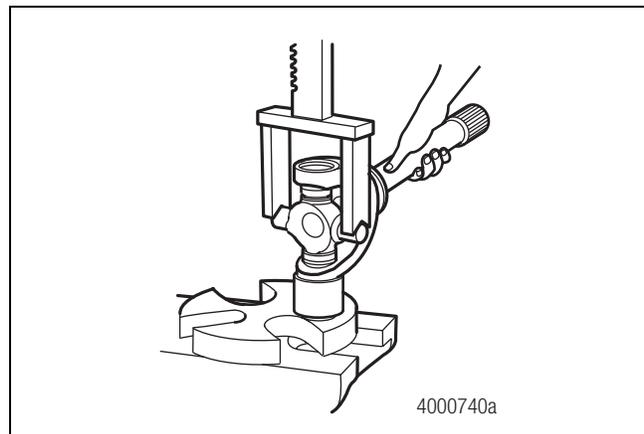

**Figure 10.7**
- Remove the round bushing. Figure 10.7.